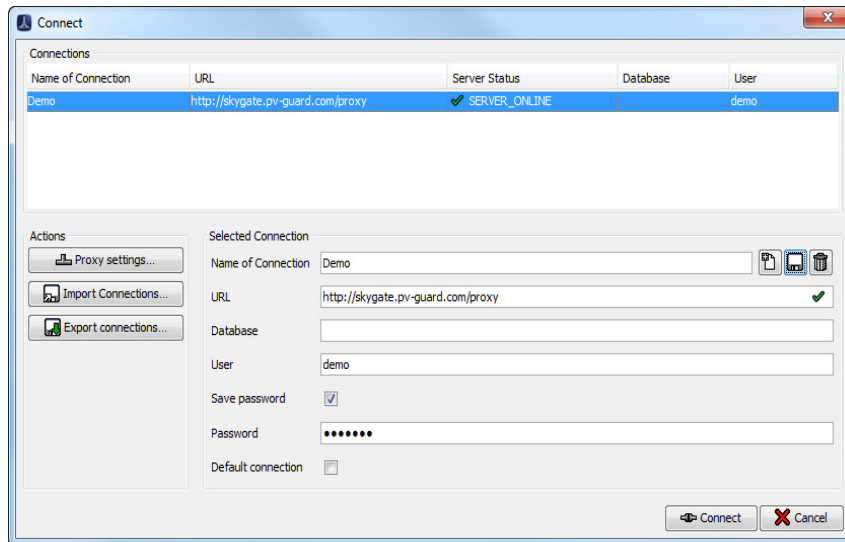

Fig. 1 Connect dialog - Selected Connection
5. The dialog 'Connect' will open as shown in Fig. 1 on p. 12.